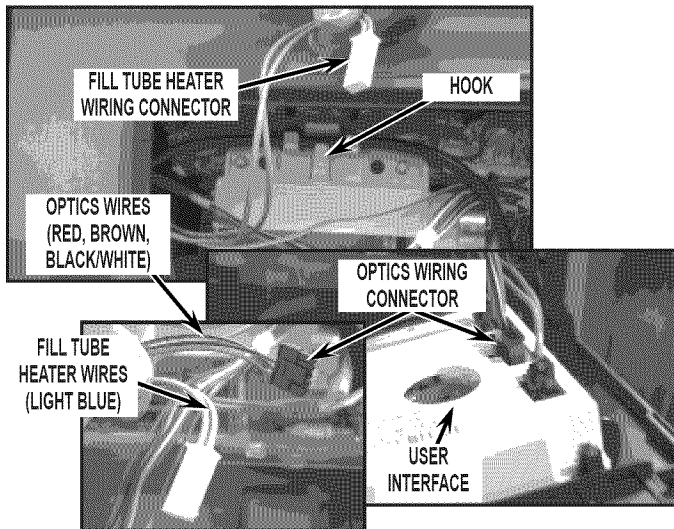
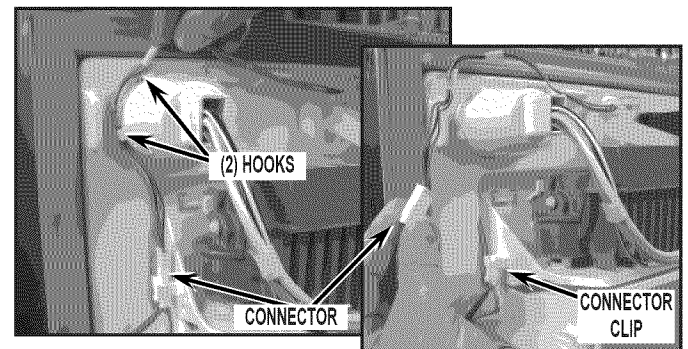

FIGURE 5
FIGURE 8
- Remove the wiring from the hook in the housing area behind the user interface. Unplug fill tube heater and optics wiring connectors so that the wires can move freely. See *Figure 5*.
- Remove the optics wiring from the connector clip and two (2) hooks shown and unplug connector. See *Figure 8*.
- Route optics wiring back into two (2) hooks, plug in the connector and attach to the connector clip. See *Figure 8*.
- Install ice maker cover ensuring the two tabs are secured in the mounting locations coming through the liner. Screw in the two (2) screws removed in step 8. Install the ice bucket.
- Plug optics wiring connector into the UI. See *Figure 5*.
NOTE: One connector (fill tube heater output-2 pin connector) will remain loose; wrap it with the supplied tape and route the wiring in the housing area behind the user interface as it was before the fill tube assembly was replaced. Insert 2 of the heater wire loops into the hook shown in *Figure 5*. Wrap up and place the excess wire into right corner of UI enclosure to avoid obstruction during UI re-assembly, tape to secure.